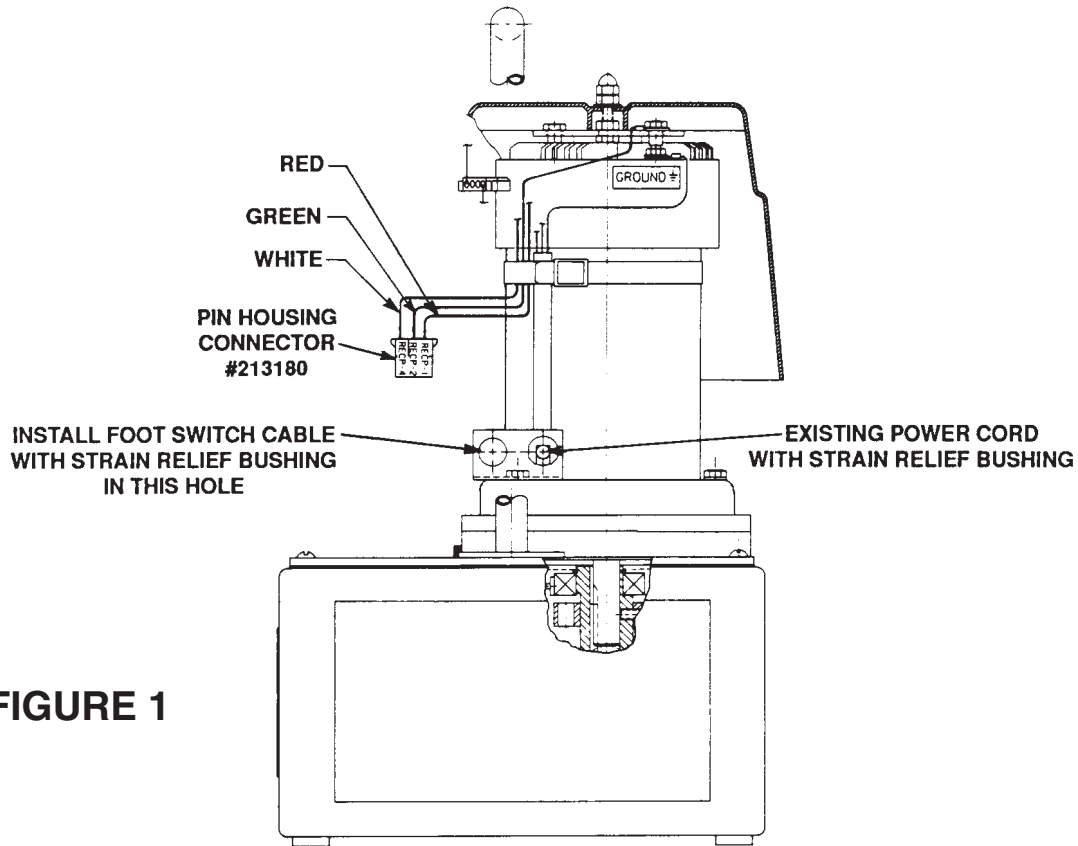

FIGURE 1
5. Feed the foot switch cable through the hole in the mounting bracket. See Figure 1.
7. Connect this assembly to the mating pin housing connector attached to the side of the pump motor. See Figure 1.